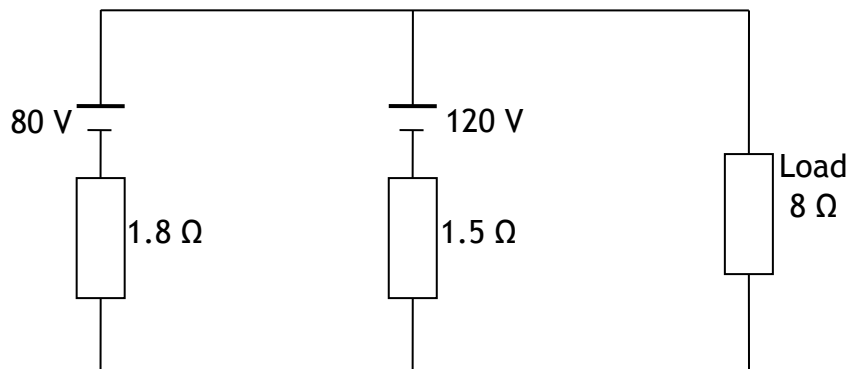

Fig Q1
1. For the circuit shown in Fig Q1, calculate EACH of the following:
- (a) the current in each battery; (10)
- (b) the load voltage; (3)
- (c) the load power. (3)